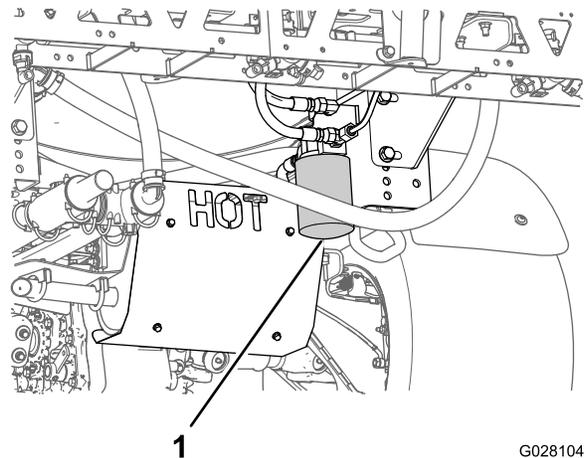

Figure 55
4. Remove the filter (Figure 55).